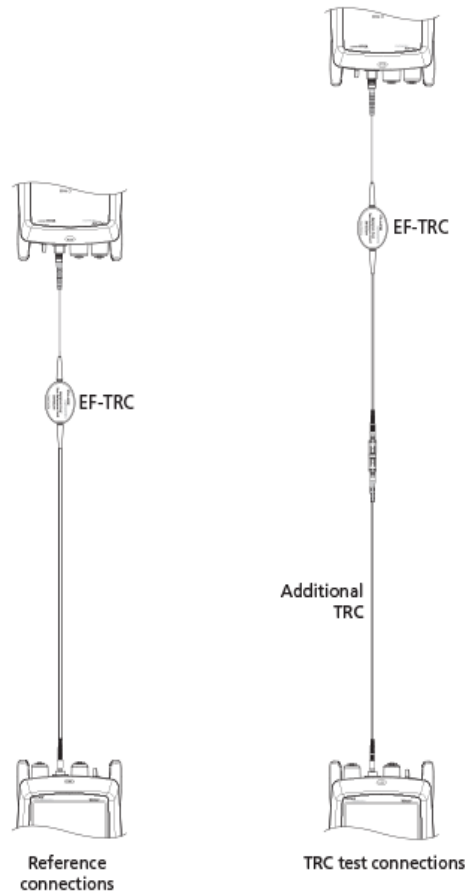

Figure 6. Reference and TRC Test Connections for Far End Source Mode
10. Make the connections to set the reference, as shown on the screen and in Figure 6, then tap **NEXT** to see the completed connections.
2. Disconnect the test reference cord from the INPUT port on the tester, then use a test reference cord and adapter to make the connections to verify the TRCs, as shown on the screen and in Figure 6.